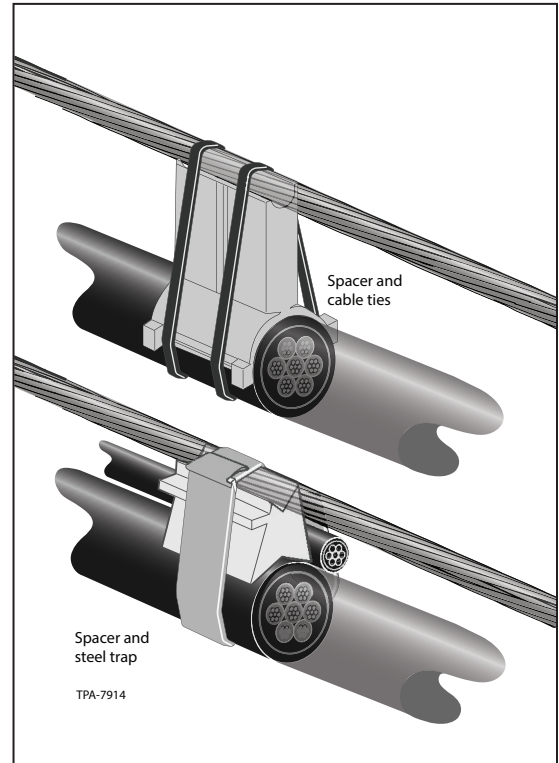

Figure 7 - Cable spacers and straps
4. In general, fiber optic cable drip loops are formed by hand. Hand forming of drip loops is permissible for fiber optic cable as long as the minimum bend radius of the cable and the dimensions illustrated in Figure 6 are not exceeded. Drip loops can also be formed by an expansion loop forming tool provided that the loop conforms to the specifications shown in Figure 7.
a) Straps and spacers should be used to support the cable in the absence of lashing wire support, and to hold cable bundles together (Figure 7).